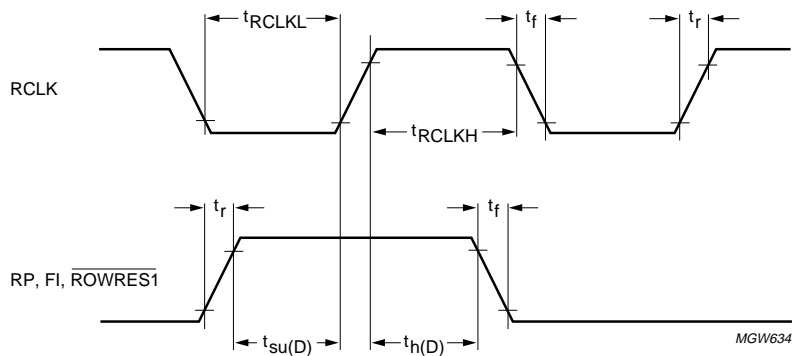

Fig.6 AC waveforms showing RCLK and data input.
**11 AC CHARACTERISTICS** $(V_{DD} - V_{SS}) = 2.4$  to  $3.5$  V;  $(V_H - V_L) = 15$  to  $55$  V;  $T_{amb} = -40$  to  $+85$  °C; see Fig.6.